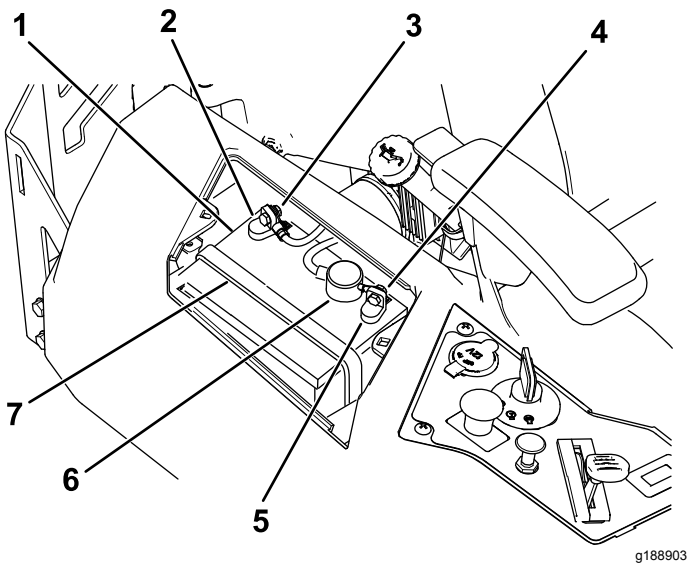

Figure 57
4. Disconnect the negative (black) ground cable from the battery post (Figure 57).
6. Disconnect the positive (red) cable from the battery post (Figure 57).
7. Remove the battery hold-down (Figure 57), and lift the battery from the battery tray.
1. Position the battery in the tray (Figure 57).
5. Secure the battery with the hold-down (Figure 57).